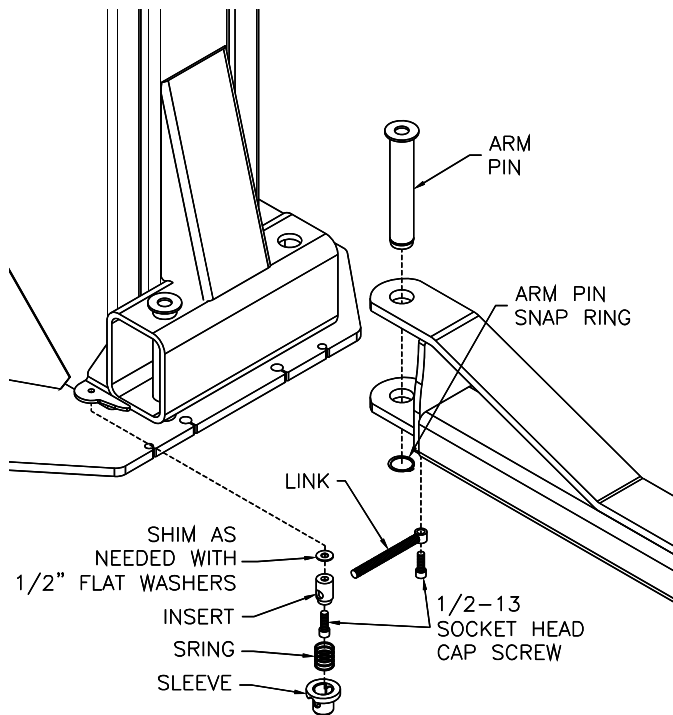

Fig. 19 – Arm Installation
- 60) Using thread-locking compound (removable), install the Arm Restraints with the 1/2”-13 Socket Head Cap Screws, **Fig 19**. Ensure that the arm restraint threads engage and disengage properly. Arm restraints should disengage when lift is fully lowered.